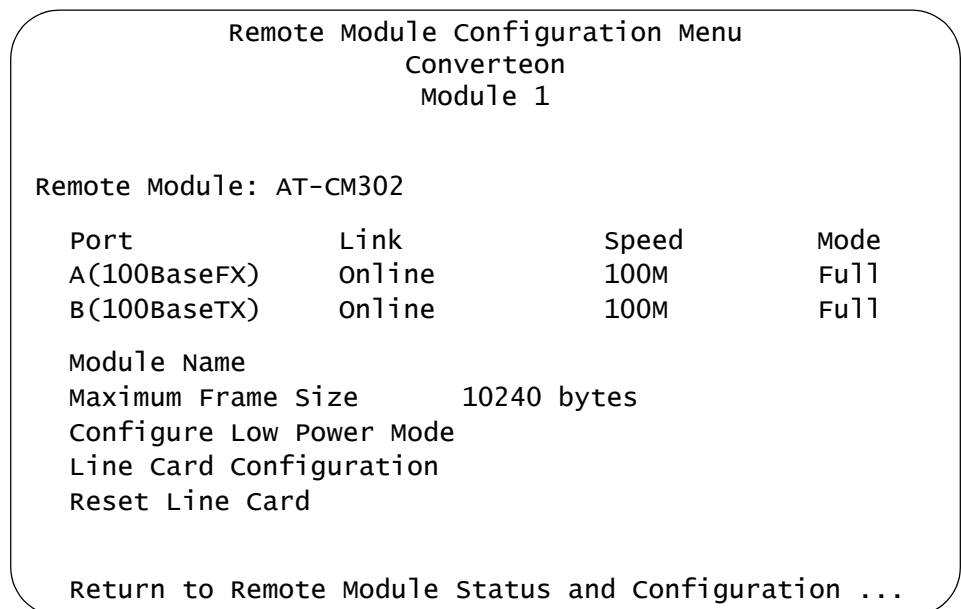

Figure 92. Remote Module Configuration Menu
- To configure a remote line card, select the card in the menu to display the Remote Module Configuration Menu. You can configure just one line card at a time. The example of the window in Figure 92 is from an AT-CM3 Line Card. There are fewer menu selections for the AT-CM2 and AT-CM70S Line Cards.